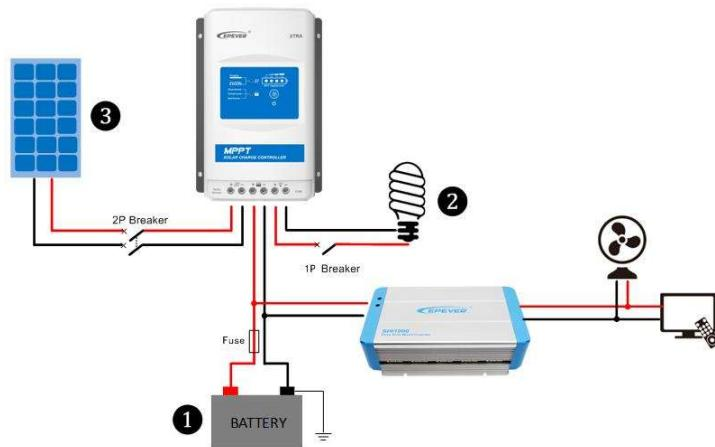

Figure 2-2 Schematic of wiring diagram
**Step 2:** Connect the system in the order of ①battery → ②load → ③PV array in accordance with Figure 2-2, "Schematic Wiring Diagram" and disconnect the system in the reverse order ③②①.